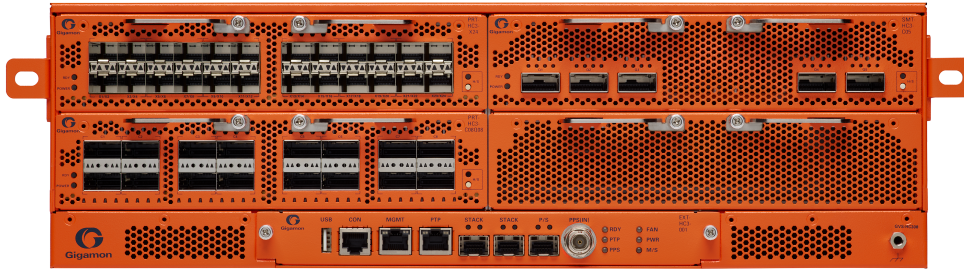

Figure 12 Modules Installed
4. Tighten the thumb screws on the levers, then use a Phillips screwdriver to tighten the screws. Refer to Figure 12 **Modules Installed**.